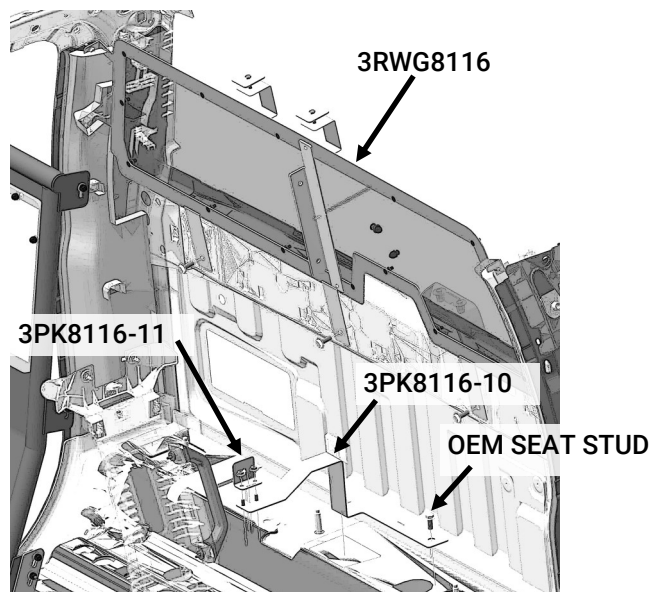

Fig. 6
- A. Remove rear seats and install the rear window guard [3RWG8116] per instructions provided. (Figure 6)
- B. Install seat bracket [3PK8116-10] by inserting it between the rear seat and seatback and fasten to the floor using the OEM seat stud. (Figure 6)